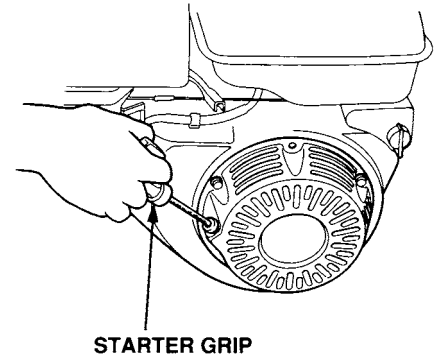

Figure 17. Starter Grip
- Pull the starter grip (Figure 17) lightly until you feel resistance, then pull briskly. Return the starter grip gently.